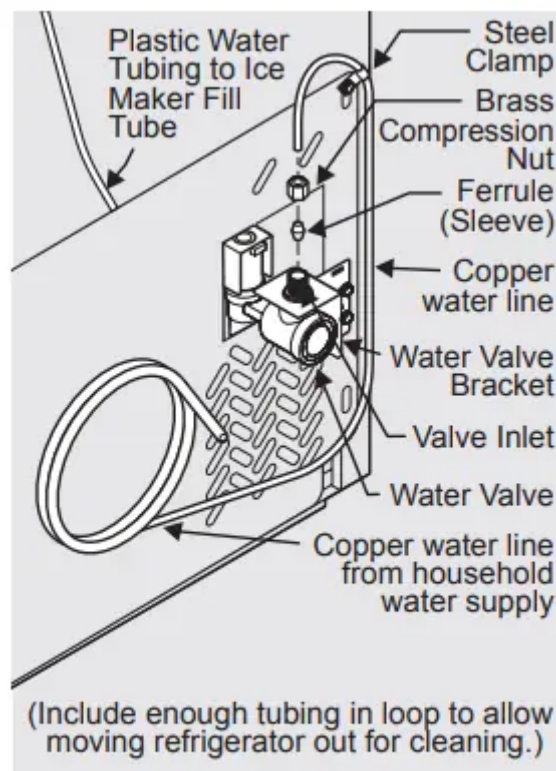

Figure 1
4. If you use copper tubing - Slide brass compression nut, then ferrule (sleeve) onto water supply line. Push water supply line into water valve inlet as far as it will go (¼ inch/6.4 mm). Slide ferrule (sleeve) into valve inlet and finger tighten compression nut onto valve. Tighten another half turn with a wrench; DO NOT over tighten. See Figure 1. If you use